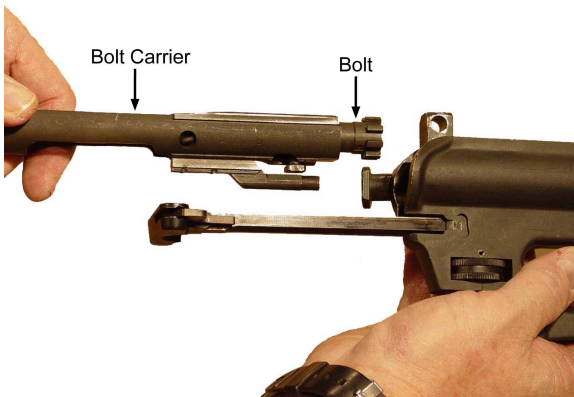

Figure 3-7. Bolt Carrier and Bolt
- (2) Remove the bolt carrier and bolt. Refer to Figure 3-7.